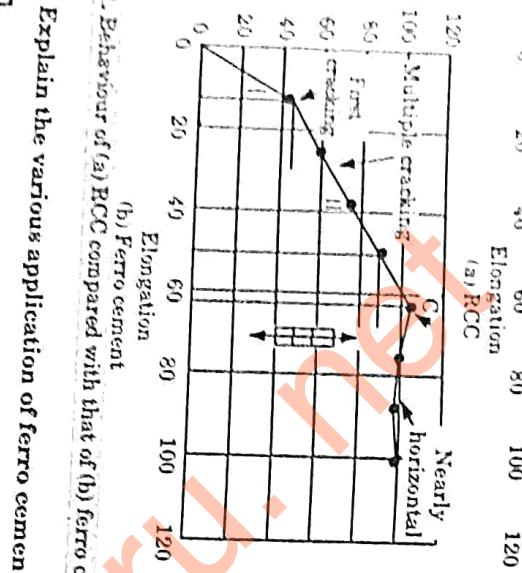

Fig. 5.16.1. Behaviour of (a) RCC compared with that of (b) ferro cement.
3. From Fig. 5.16.1, the main difference lies in unstable stage II (AB). Slowly adapts to the increasing load by increasing its extensibility. Many fine cracks form. When cracks form, the increase in crack width is small compared to reinforced concrete.